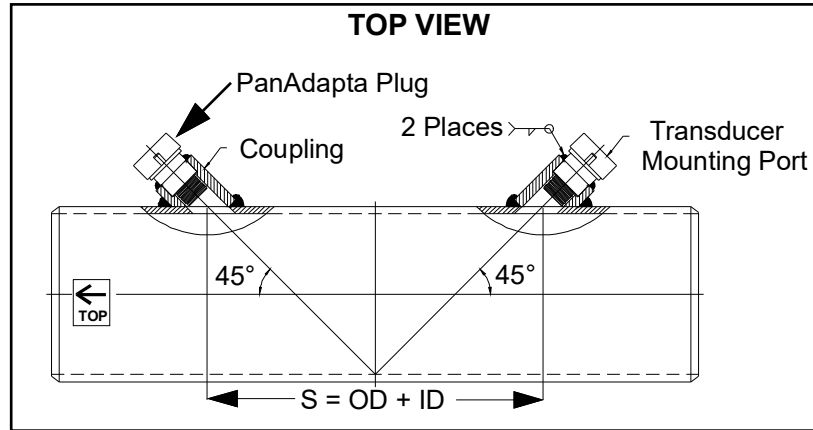

Figure 21: PanAdapta Plugs Socket-Welded into Spoolpiece Flowcell
- *Metal*: Socket-weld the PanAdapta plug into the port (see *Figure 21* below).